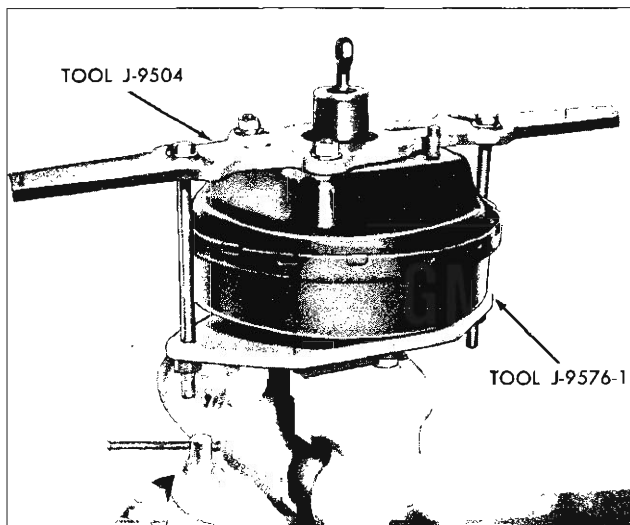

Fig. 19—Separating Shells with Tools J-9504 and J-9576-1
3. Position and secure Tool J-9576-1 (fig. 19) to main cylinder mounting studs, and place tool and power unit in a vise. Be sure to align tool so that check valve in front shell is not damaged.
2. Position and secure Tool J-9576-1 (fig. 19) to main cylinder mounting studs, and place tool and front shell in a vise. Be sure to align tool so that check valve is not damaged.